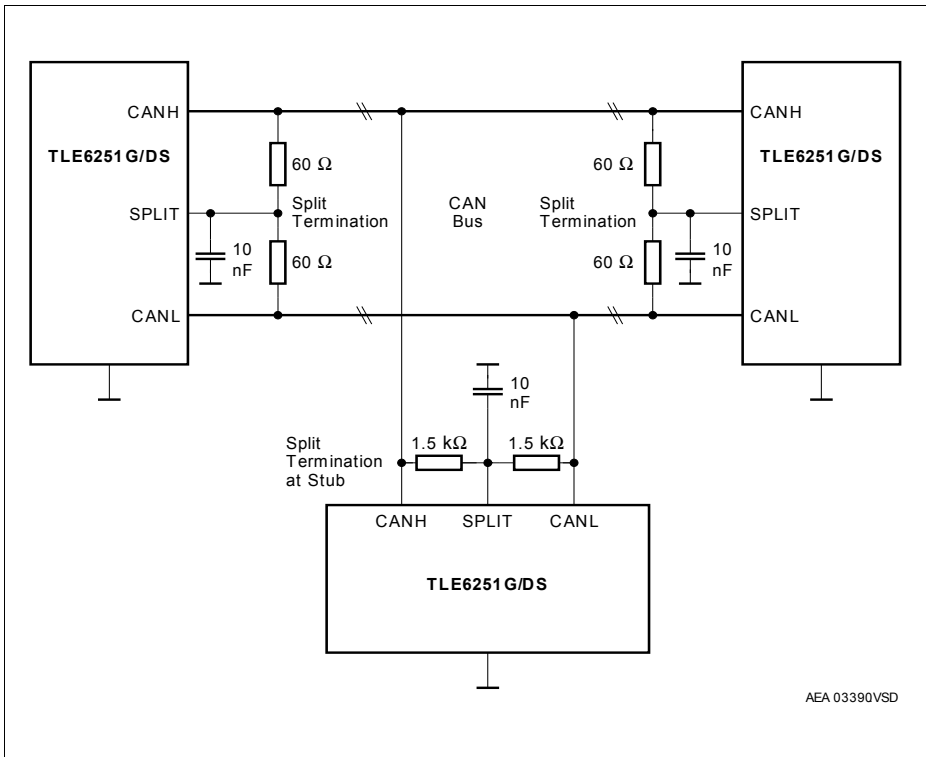

**Figure 6** Wake-up behavior
1) Signal at RxD changes corresponding to the bus signal during stand by mode. See Figure 6
During standby mode, a dominant CAN message on the bus longer than the filtering time  $t > t_{WU1}$ , leads to the activation of the wake-up. The wake-up during standby mode is signaled with the RxD output pin. A dominant signal longer  $t > t_{WU1}$  on the CAN bus switches the RxD level to LOW, with a following recessive signal on the CAN bus longer  $t > t_{WU2}$  the RxD level is switched to high, see Figure 6.